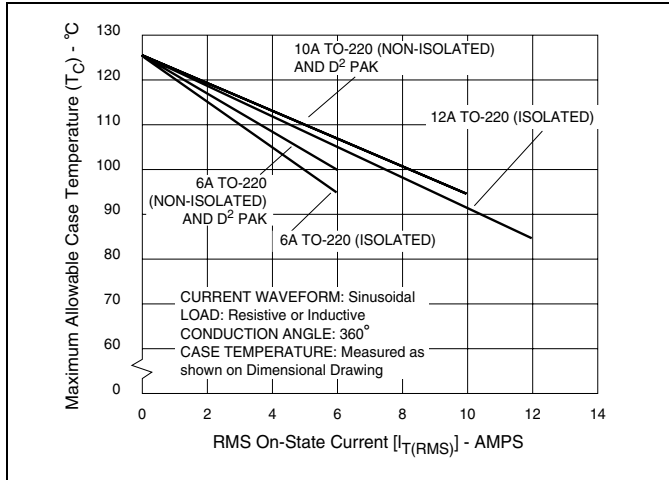
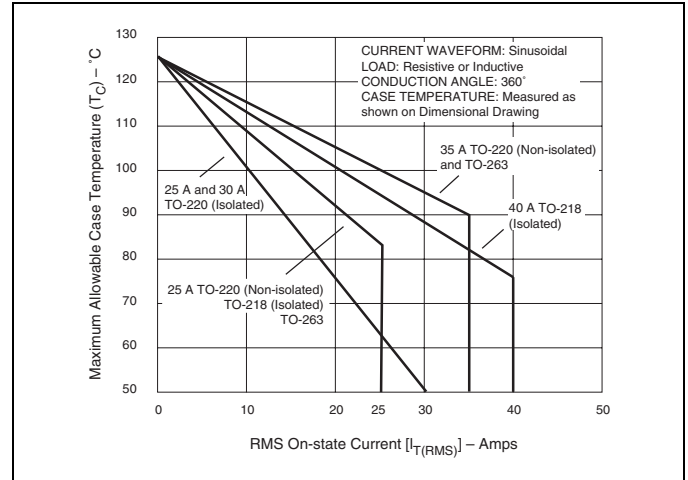
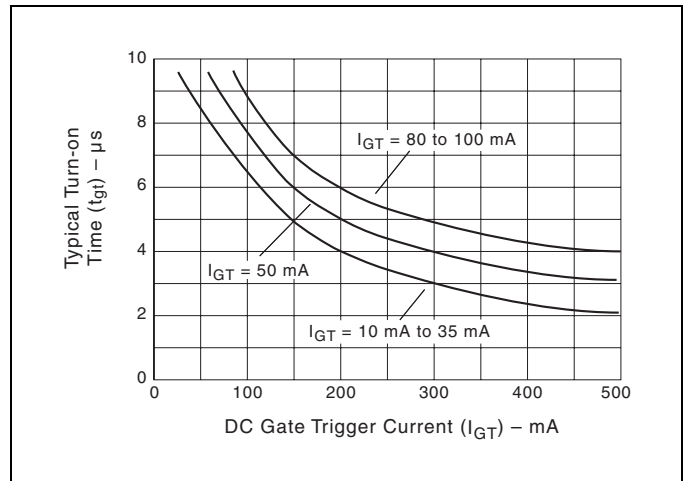

Figure E4.1 Maximum Allowable Case Temperature versus On-state Current (6 A to 12 A)
Figure E4.4 Maximum Allowable Case Temperature versus On-state Current (25 A to 40 A)
Figure E4.12 Turn-on Time versus Gate Trigger Current (Typical)
- (1) For either polarity of MT2 with reference to MT1 terminal
- (2) For either polarity of gate voltage (V_{GT}) with reference to MT1 terminal
- (3) See Gate Characteristics and Definition of Quadrants.
- (4) See Figure E4.1 through Figure E4.4 for current rating at specific operating temperature and Figure 4.16 for free air rating (no heat sink).
- (10) See Figure E4.12 for t_{GT} versus I_{GT} .
- (11) See package outlines for lead form configurations. When ordering special lead forming, add type number as suffix to part number.
- (12) Initial on-state current = 400 mA dc for 16 A to 40 A devices and 100 mA for 6 A to 12 A devices.
- (13) See Figure E4.1 through Figure E4.4 for maximum allowable case temperature at maximum rated current.
- (14) Pulse width $\leq 10 \mu s$; $I_{GT} \leq I_{GTM}$
- (15) For 6 A to 12 A devices, $R_L = 60 \Omega$; 16 A and above, $R_L = 30 \Omega$
- (16) 40 A pin terminal leads on K package can run 100 °C to 125 °C.
- (17) Alternistor does not turn on in Quadrant IV.
- (18) $T_C = T_J$ for test conditions in off state
- (19) $I_{GT} = 200 \text{ mA}$ for 6 A to 12 A devices and 500 mA for 16 A to 40 A devices with gate pulse having rise time of $\leq 0.1 \mu s$.
- (20) Minimum non-trigger V_{GT} at 125 °C is 0.2 V.